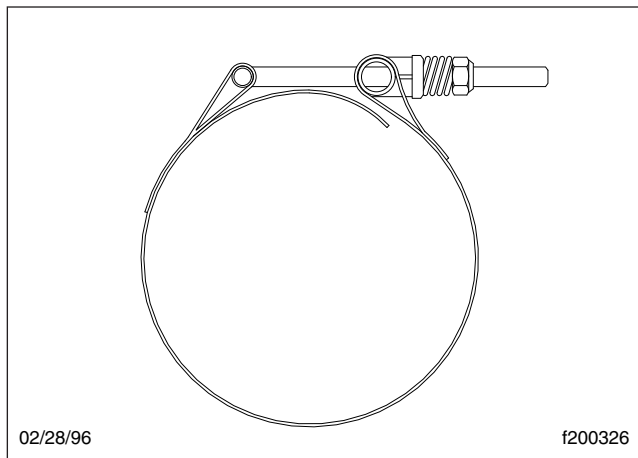
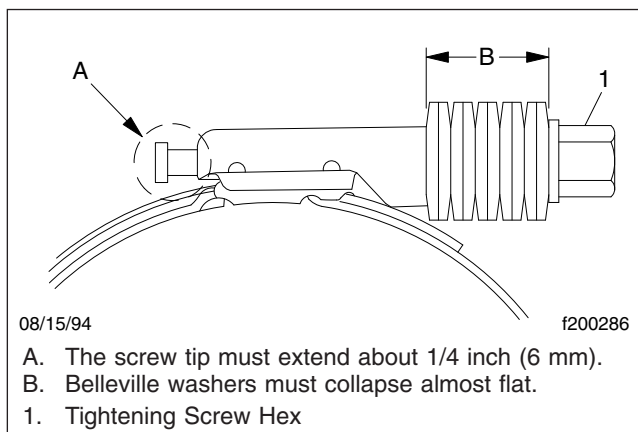

Fig. 3, T-Bolt Type Hose Clamp
Fig. 4, Breeze Constant-Torque Hose Clamp Installation
10. Connect the hoses. Your hose clamps can be either T-bolt clamps (see Fig. 3) or Breeze Constant-Torque clamps (see Fig. 4).